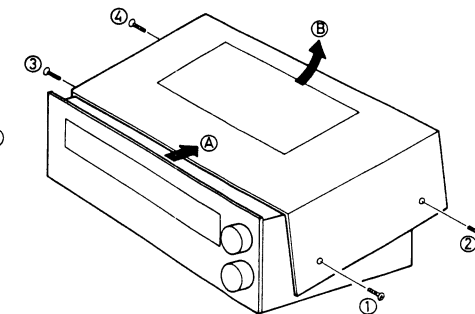

Fig. 8
2. Remove the four cabinet mounting screws (nos ① ~ ④ screws in fig. 8).
3. Sliding it toward A direction and lifting it upward B direction as shown in fig. 8.